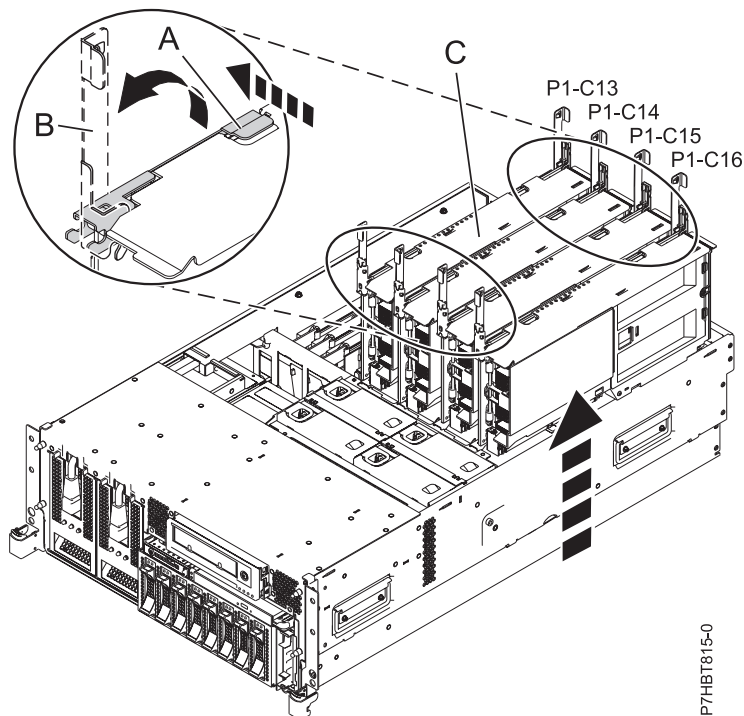

Figure 4. Removing system processor assembly from the backplane assembly in a rack-mounted system
8. As shown in Figure 4 on page 9, unlock the latches (A) on the system processor assembly. Using both hands, grasp the unlocked latches (B) to pull the system processor assembly (C) through the guide rails away from the system backplane assembly.